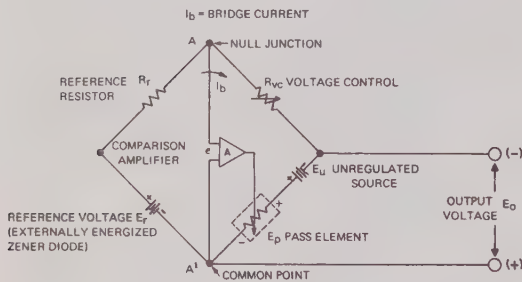

FIG. 3-3 KEPKO POWER SUPPLY AND COMPARISON BRIDGE CIRCUIT
3-8 INTRODUCTION TO REMOTE PROGRAMMING (Refer to FIG. 3-3)
3-9 A few general remarks may be in order to familiarize the user of this equipment with the terminology and basic equations pertaining to remote programming of the Kepco PCX and PCX-MAT Power Supplies. Electrically, the power supply consists of the unregulated DC source (E_U) the pass element (E_P), the DC error amplifier (A) and a comparison circuit which resembles a four-arm electrical bridge. (Refer to FIG. 3-3). The elements of the bridge are arranged to produce a virtual zero at the amplifier input when the bridge circuit is at balance ($V_{AA}=0$). Any tendency for the output voltage to change in relation to the reference voltage (R_r) creates an error signal which, by means of negative feedback and the amplifier, tends to correct the output voltage towards restoration of bridge balance.